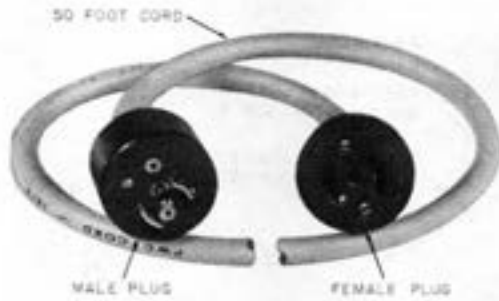

Fig. 55—B Weatherproof Cord
5.08 The B weatherproof cord (Fig. 55) consists of a 50-foot, 16-gauge, 3-wire (tip, ring, and ground) yellow PVC insulated flexible cord, with PHONE stamped on the cord at 1-foot intervals for identification. The cord is terminated on one end with a male plug which engages the B weatherproof female jack at the service pad or dock. The other end is terminated in a female plug which engages the male jack on the recreational vehicle or boat. Rubber boots on the plug mate with their respective jacks to provide weather protection.
SEE FIG. 55 AND 56.